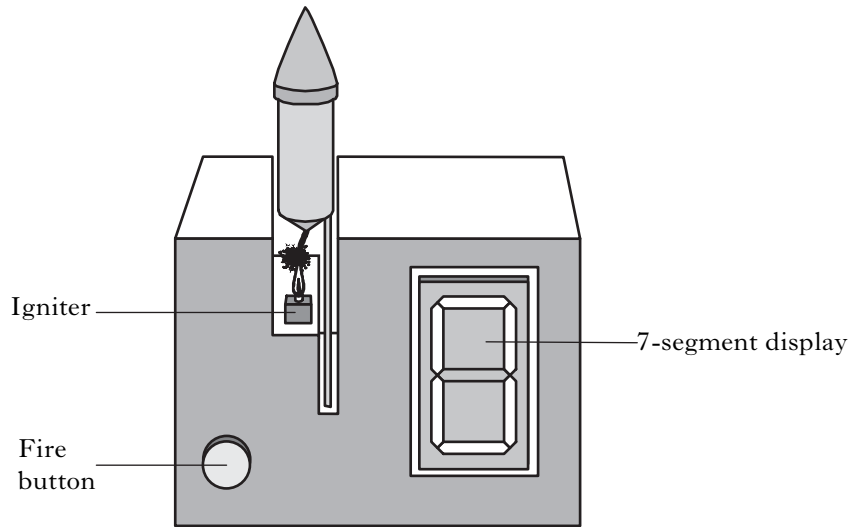

Figure Q5
5. The firework launcher shown in Figure Q5 is designed to provide a visual countdown to enable the user to retreat to a safe distance.